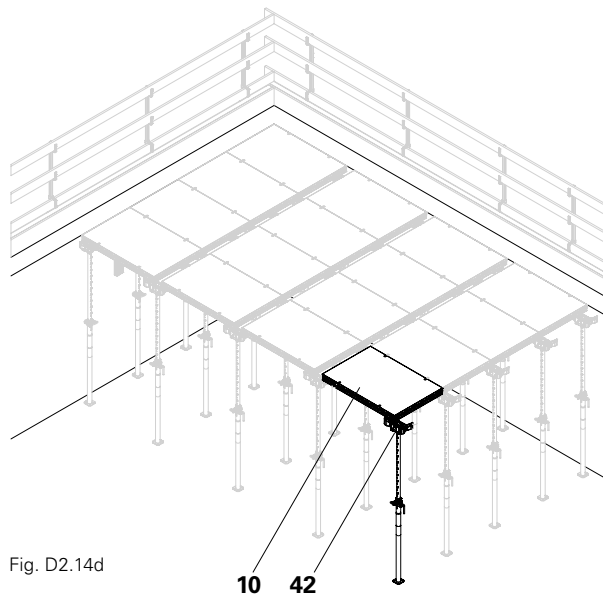

Fig. D2.14d
4. Erect the other DP panels (10) in the same way. (Fig. D2.14d)